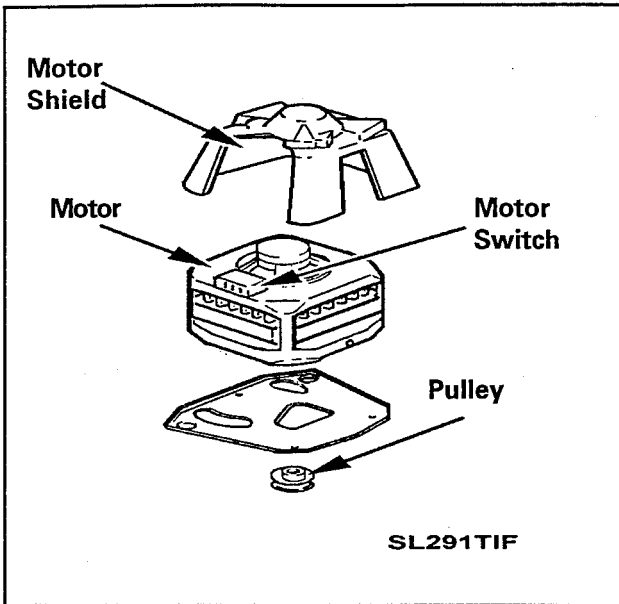

Figure 8-9
All washers are equipped with split phase reversible motors (*Figure 8-9*). The motor is 1/2 H.P., two speed. The motors have a four (4) pole and a six (6) pole winding and run at 1725 R.P.M. or 1149 R.P.M. respectively.